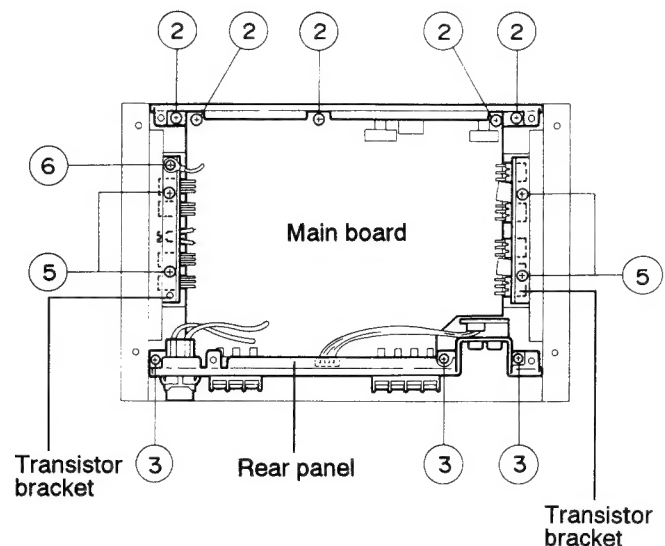

Fig. 4-2
■ Removing the front panel (See Fig. 4-2)
(See Figs. 4-2 and 4-3)
■ Removing the main board (See Fig. 4-2)